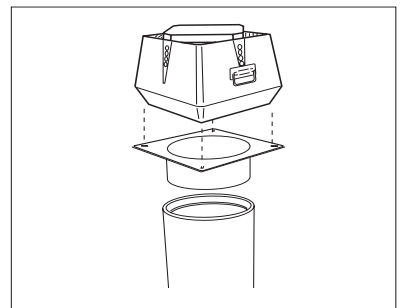

Fig. 4
- Insert the SCA into the chimney/stack. The long collar engagement ensures safe anchoring (see fig. 4).